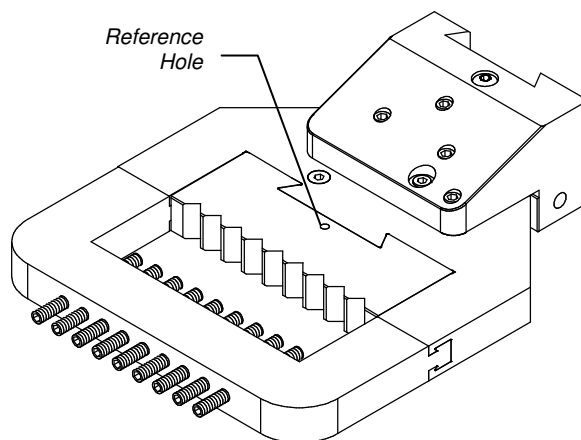

Figure 13
STEP 21. Wire cut nine Vee's into the example shown in Fig. 13.